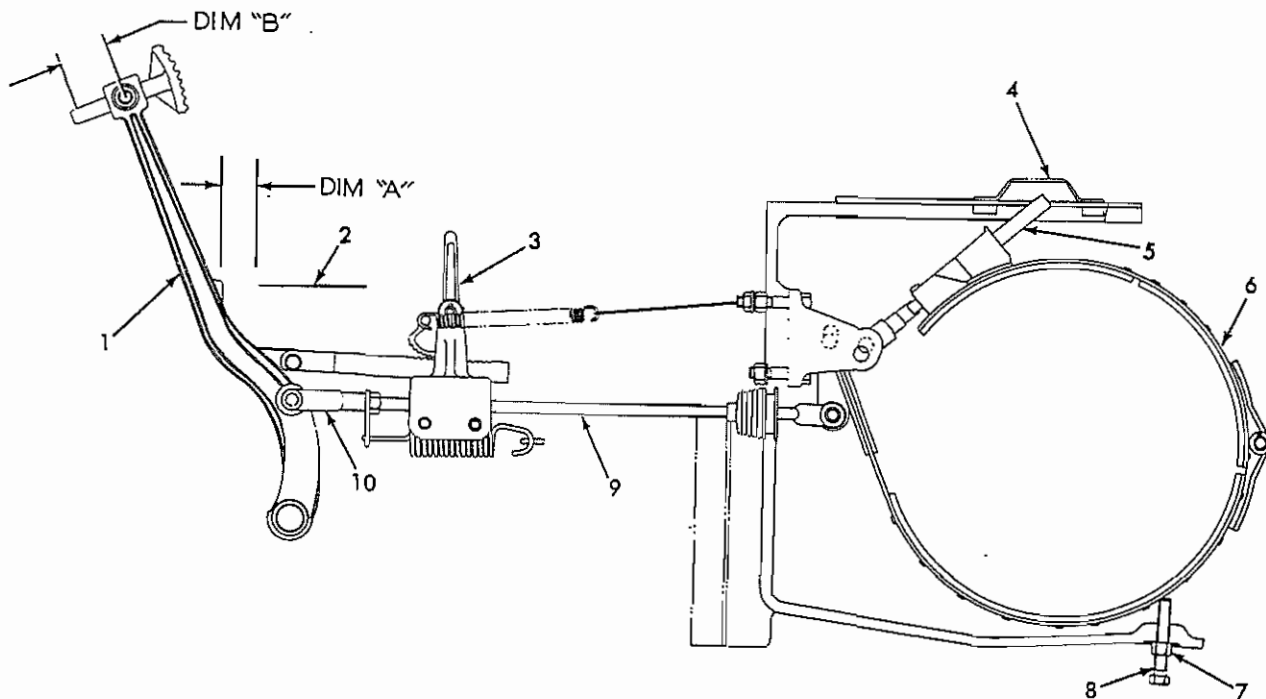

Fig. 20 -- HD6 Brake Control Linkage, HD6G Similar
- a. Refer to Fig. 20 and adjust length of brake control rod (9) to obtain DIM. "A" (1/16" - 1/4") floor plate to brake lever clearance.
- b. Remove band adjuster cover and turn adjuster (5) to obtain DIM. "B" 1-3/4" - 2"; HD6G 2" - 2-1/4" (brake lever free travel).
- c. Loosen jam nut on support screw (8) and turn screw until band contacts brake drum; loosen support screw 1/2 turn and tighten jam nut.